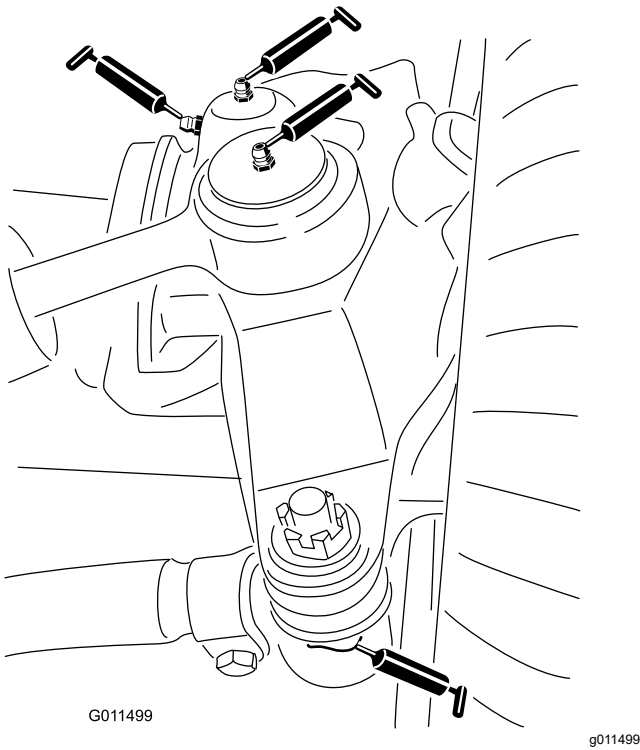

Figure 79
- 2 steering-cylinder-ball joints (Figure 79)
- 2 tie-rod-ball joints (Figure 79)
- 2 king-pin bushings (Figure 79).